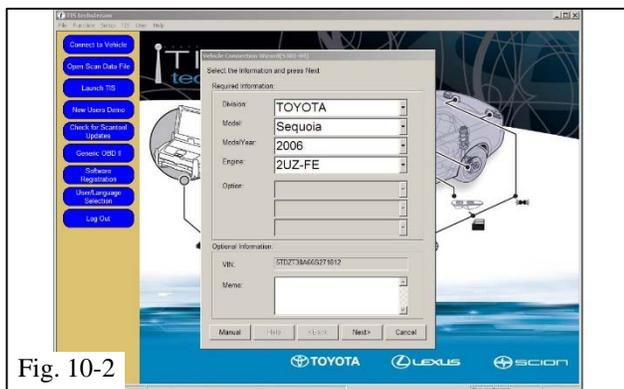

Fig. 10-2
- (e) Confirm that the information displayed on the Vehicle Connection Wizard is correct. If not, make the appropriate selections from the drop down menus, then click **“Next”** (Fig. 10-2).